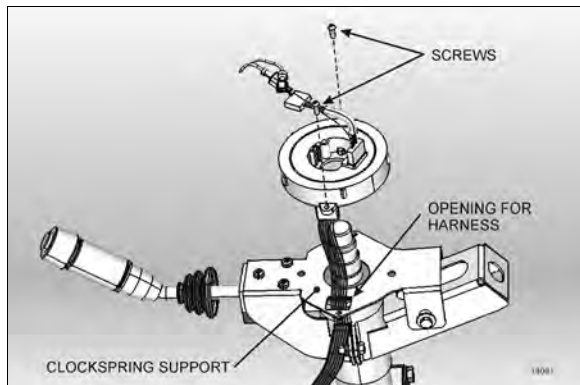

FIGURE 14: CLOCKSPRING INSTALLATION
wheel column (Figure 14). If necessary, remove the steering column covers.
3. Route the new clockspring harness through the opening in the clockspring support (Figure 14). Plug the connector at the base of the steering wheel column and fix harness along the steering wheel column.